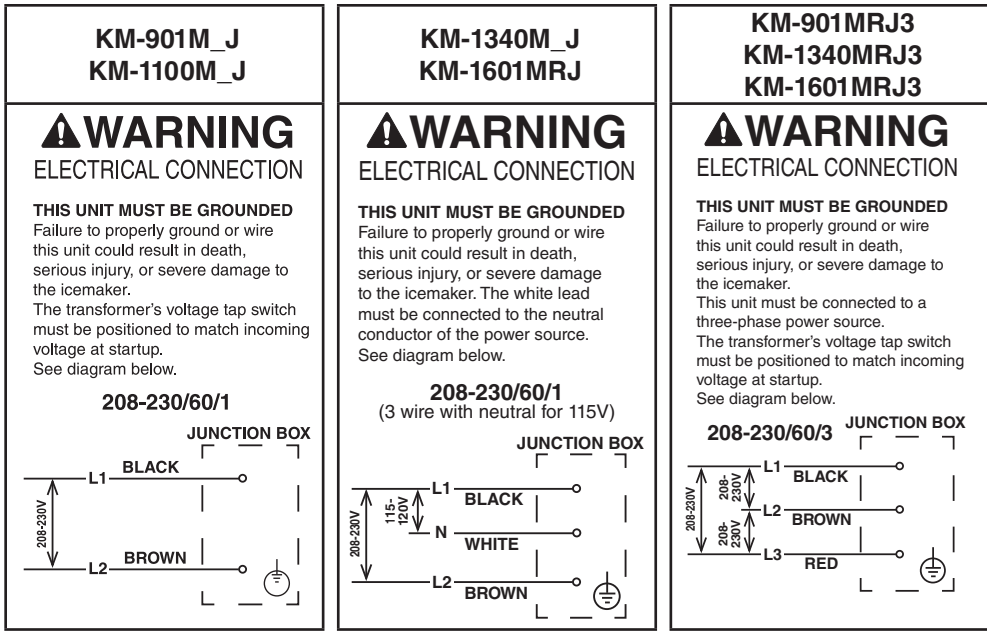

Fig. 4
- Electrical connection must be made in accordance with the instructions on the "WARNING" tag, provided with the pig tail leads in the junction box. See Fig. 4.